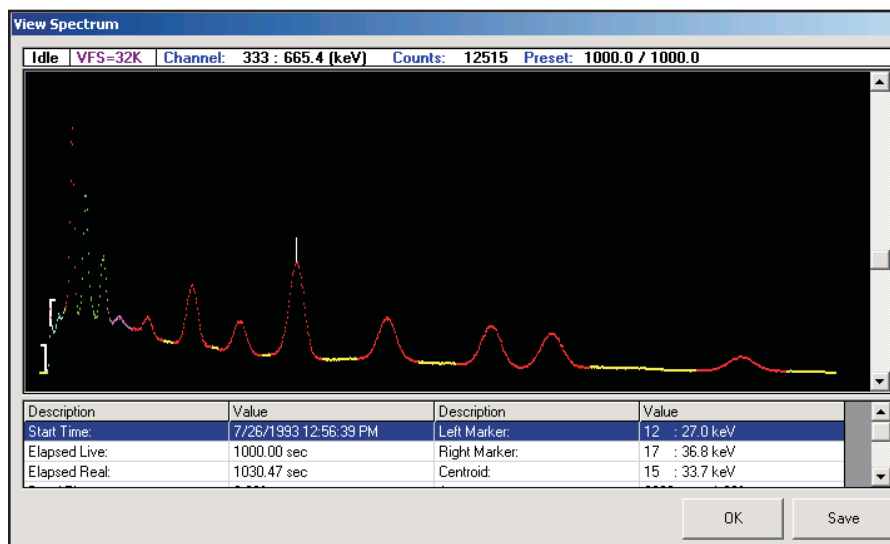

Figure 92 Viewing a Spectrum
3. The spectrum file will be retrieved from the InSpector and displayed (Figure 92).